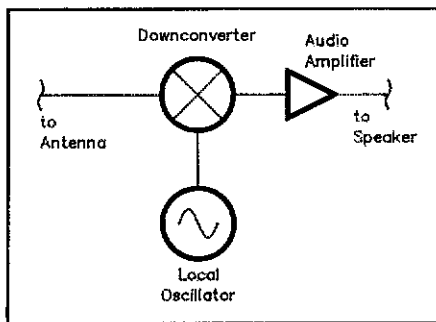

Fig 1—Block diagram of a direct-conversion receiver.
The block diagram of a direct-conversion receiver shown in Fig 1 is deceptively simple. There are only three blocks: the downconverter, the local oscillator (LO)